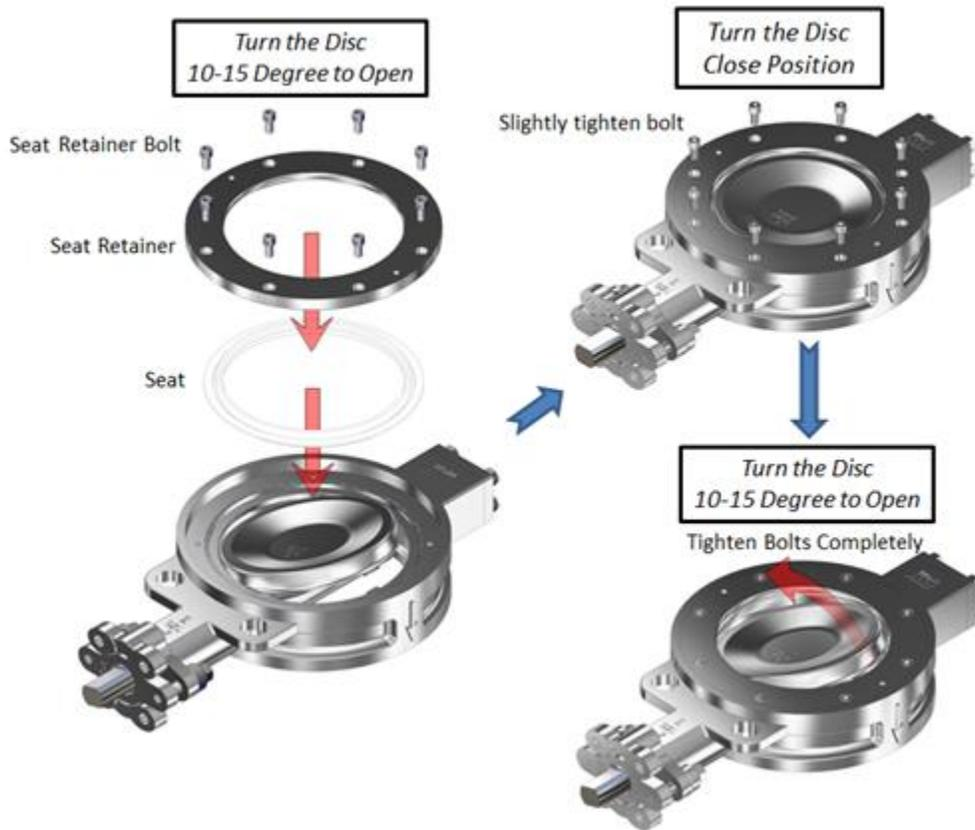

FIGURE 6. SOFT SEATED RETAINER REPLACEMENT DIAGRAM
1. Refer to Figure 6 for soft seated retainer replacement.